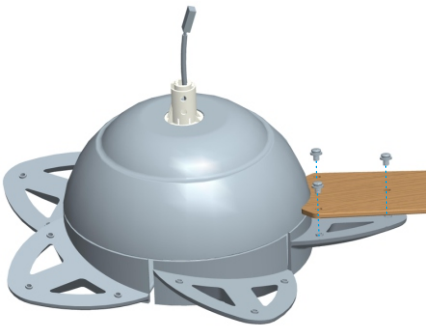

Fig 4.1
4.1 Locate 15 blade attachment screws in the hardware pack. Secure each blade to the blade bracket using blade screws as shown in Fig 4.1.